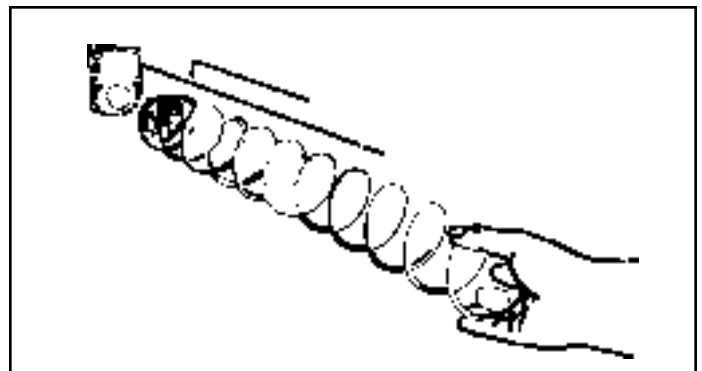
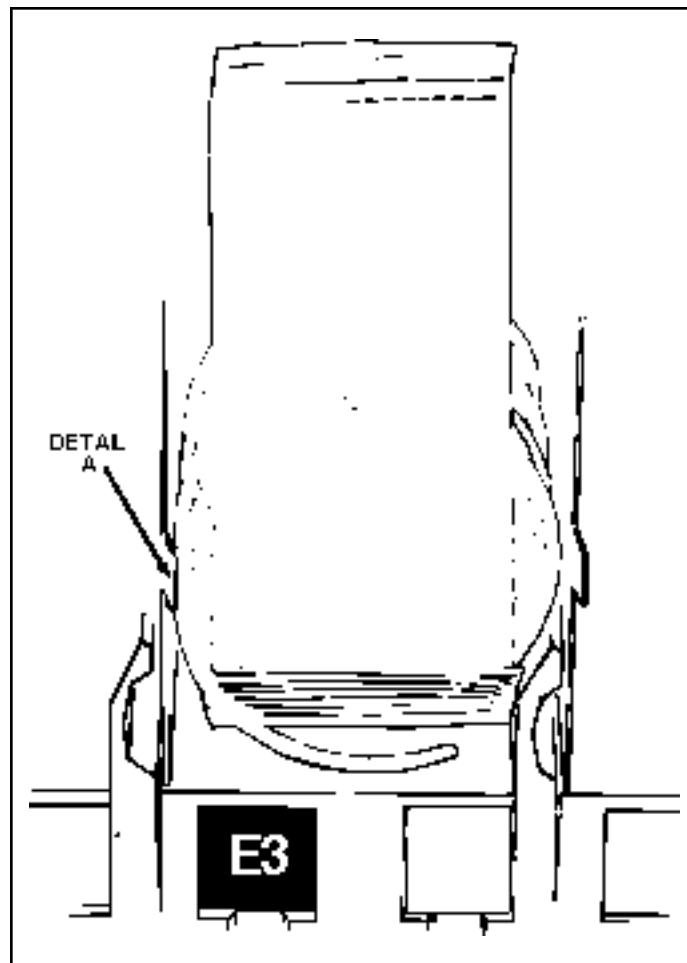

Figure 3. Removing and installing spiral.
Figure 5. Placement of product on main product candy shelves and front end position of spiral.
4. **Removal of Spiral.** Grasp the front of the spiral and turn it clockwise. Lift the spiral up and off of the spiral lock and turn the spiral counterclockwise to lock it in place. Be sure the front end of the spiral is positioned properly (with the front end of the spiral pointing downward on the left side). (Figure 3.) The spiral lock is attached between the spiral retainer tabs. Give a light forward pull on front of the spiral to check if it is locked in place.
6. Loading Main Product Candy Shelves. The 10-selection (candy type) shelves are loaded similar to the 5-selection shelves, except that, the bottom of the product sits on the shelf in front of the spiral wire (Figure 5.) that rests on the shelf. These products must also fit properly in the spiral space. **Do not force product into spiral.** These spirals are removed and installed the same as the large spiral (Figure 3.), except that, the front end position is different (approximately 5 o'clock) (Figure 5.) and the front left side of the spiral must be behind the small tab located on the left side of the product space side wall. (Figure 5., Detail A)